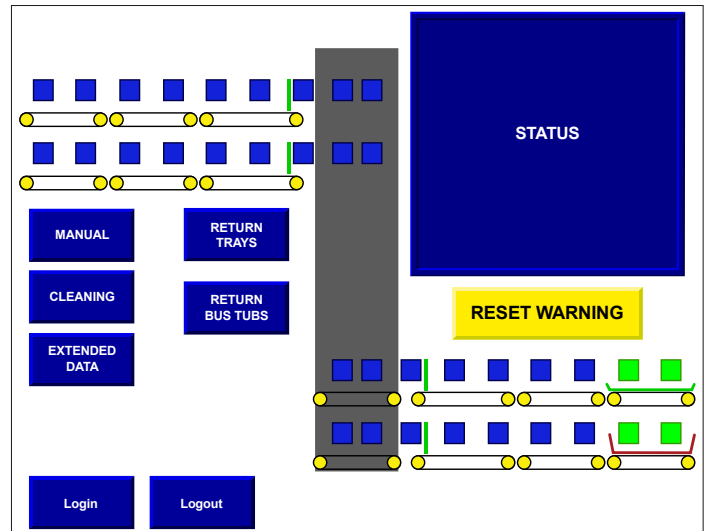

Figure 1. HMI Home Screen
3. To return trays, select "Return Trays" on the HMI home screen (Figure 1).
To return bus tubs, select "Return Bus Tubs" on the HMI home screen (Figure 1).